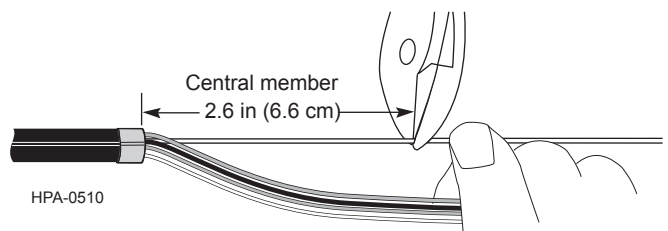

Figure 19
**Step 9:** Use side cutters to cut the dielectric central member to a length of 2.6 in (6.6 cm) from each end of the cable sheath (Figure 19).